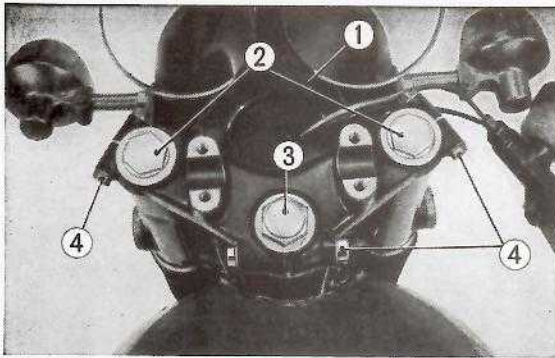

Fig. 11-4 ① Fork top bridge ③ Stem nut
② Steering stem thread
6. Loosen the stem nut, two front fork top bolts, three 8 mm setting bolts and then remove the fork top bridge. (Fig. 11-4)